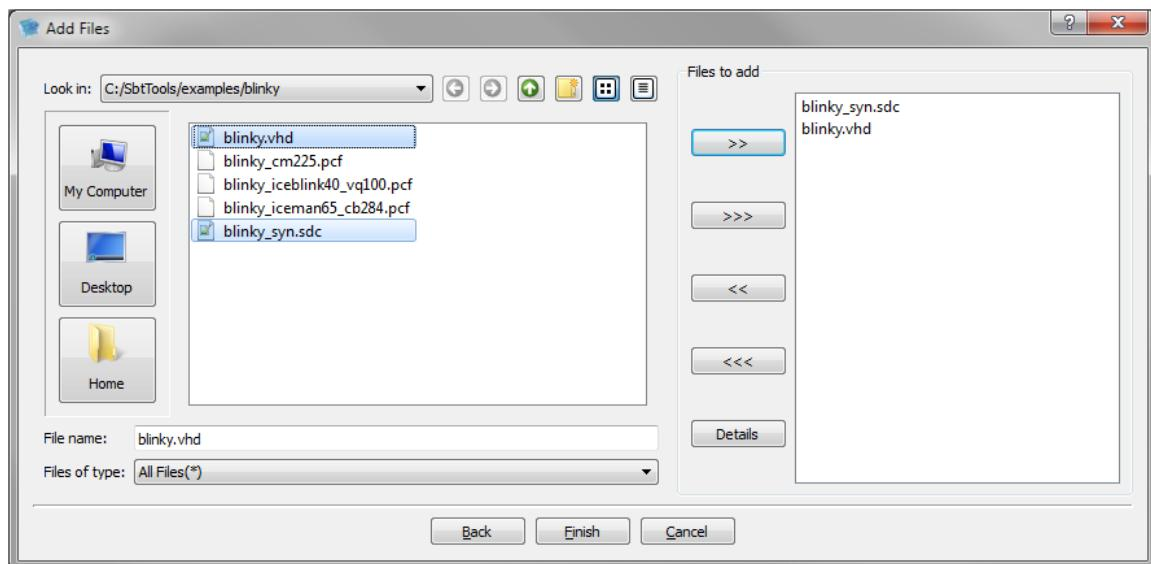

Figure 2-4: Add Files Dialog Box
8. Click **Next** to go to the Add Files dialog box shown in Figure 2-4. You will be prompted to create a new project directory. Click Yes.